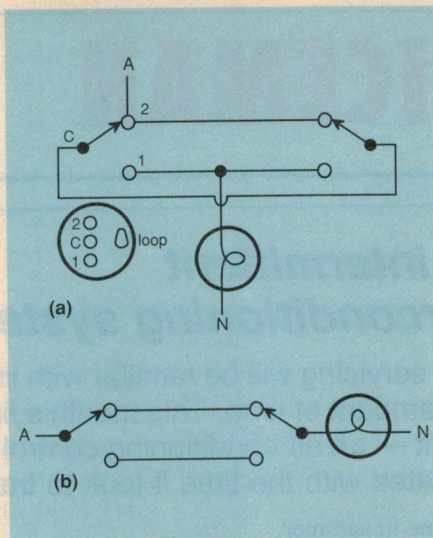
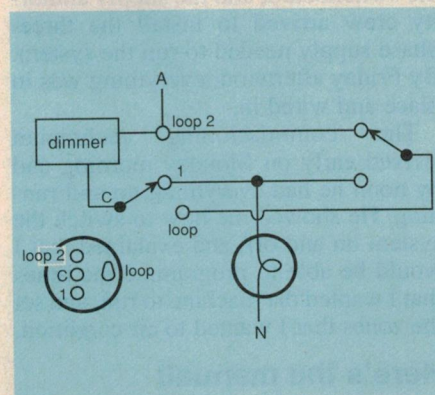

Fig.3: (a) shows how the two-way light switching circuit was wired, while (b) shows the usual way of wiring this circuit.
Fig.4: The lighting circuit after the plumber had connected the dimmer. The switch on the right now has no effect on the circuit.
There may be other answers, but it seems the original two-way switching circuit was that shown in Fig.3(a), not the usual circuit shown in Fig.3(b). The original switch was a two-way (SPDT) HPM 770 black body switch, with the terminals as shown in Fig.3(a). The dimmer came fitted with a blue body switch, a single-pole single-throw (SPST) device, with a similar terminal configuration to the black body switch. The difference between the two switches is terminal 2, a switch contact (2) in the black body switch, and a looping terminal (loop 2) in the blue body switch.
After connecting the dimmer, the circuit was that shown in Fig.4. Compare this to Fig.3(a), and you'll see the wiring is physically similar, with the dimmer connected between the active (loop 2) and the switch common (C). Left with one wire too many, the plumber stuck it in the loop terminal, to get it out of the way.